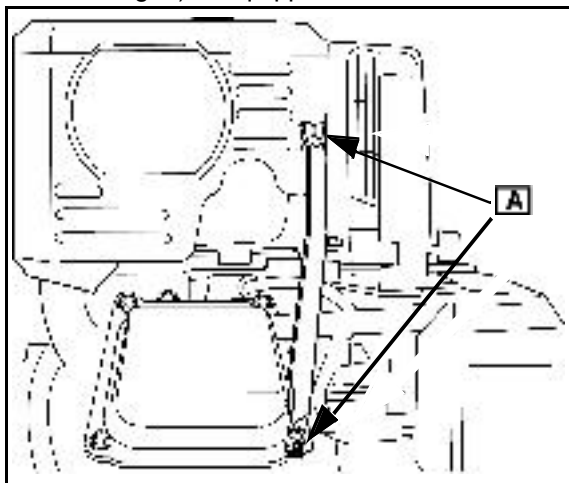
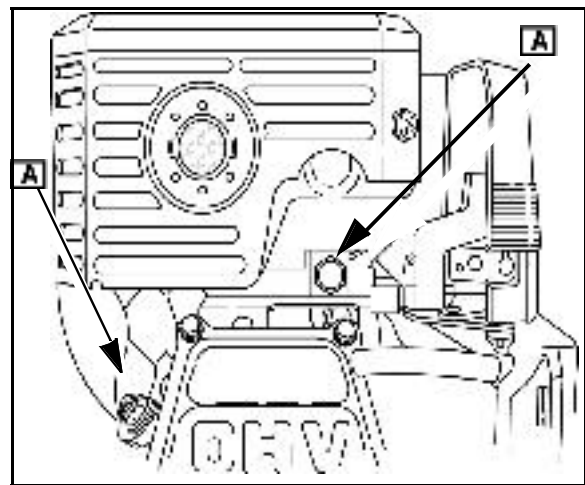

Fig. 3
Fig. 4
1. Remove muffler brace screws ([A] Fig. 3 or Fig. 4), if equipped.